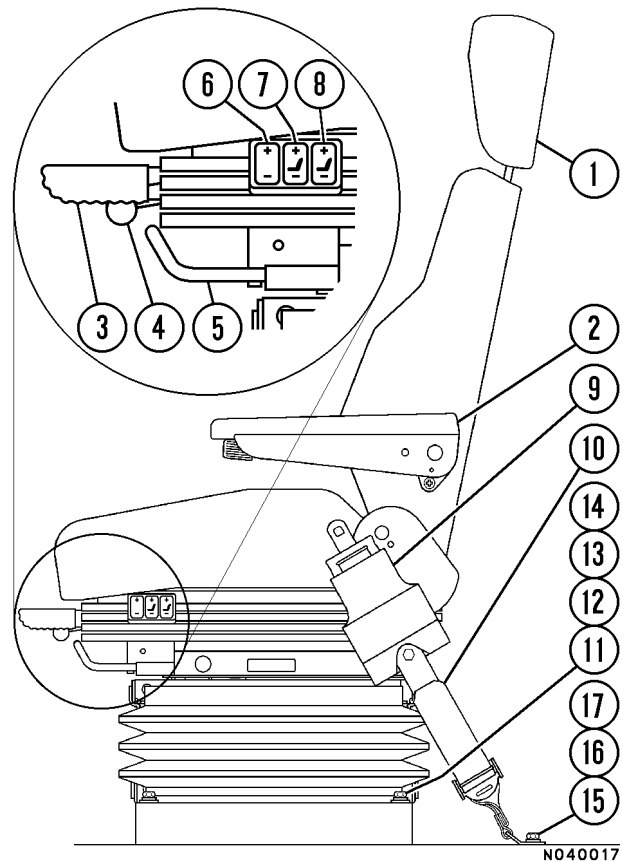

FIGURE 3-8. OPERATOR'S SEAT
1. **Headrest:** headrest (1, Figure 3-8) will move up, down, fore, or aft by moving headrest to desired position.
3. **Backrest:** Pull control (3) upward and hold, select backrest angle; release control handle.
- a. Front height and slope; lift control lever (4) and hold.
- a. Raise adjustment lever (5).
6. **Seat Height:** Press rocker switch (6) on top to increase ride height. Press on lower part of rocker switch to lower ride height.
- 7 & 8. **Air Lumbar Support** Each rocker switch (7 or 8) controls an air pillow. Switch (7) controls the lower air pillow and switch (8) controls the upper air pillow. To inflate, press on top of rocker switch and hold for desired support, then release. To deflate, press on bottom of rocker switch and hold for desired support, then release. Adjust each pillow for desired support.
1. Remove capscrews (11, Figure 3-8) and hardware that secures the seat base to the riser. Remove capscrews (15) that secures tether (10) to floor.
1. Mount seat assembly to seat riser. Install capscrews (11, Figure 3-8), lockwashers (12), flatwashers (13) and nuts (14). Tighten capscrews to standard torque.
2. Fasten tether straps (10) to floor with capscrews (15), flatwashers (16) and lockwashers (17). Tighten capscrews to standard torque.